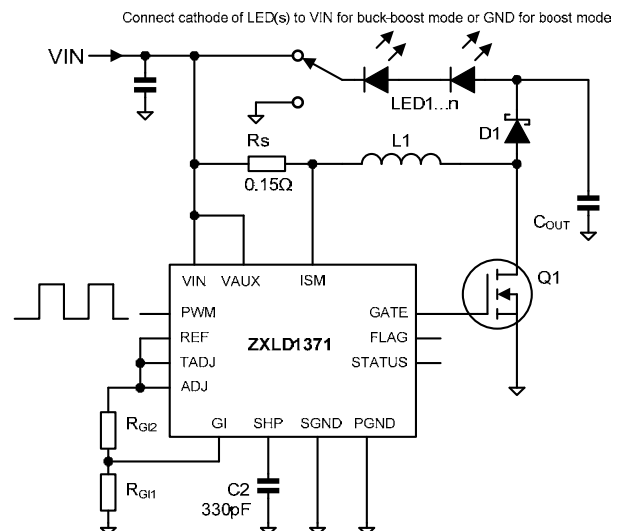

Figure 3. Boost and Buck-boost configuration
b) Boost and Buck-Boost modes – the most simple boost/buck-boost circuit is shown in Figure 3
The average current in the LED, I_{LED} , is always less than I_{RS} . The feedback control loop adjusts the switch duty cycle, D, to achieve a set point at the sense resistor. This controls I_{RS} . During the interval t_{OFF} , the coil current flows through D1 and the LED load. During t_{ON} , the coil current flows through Q1, not the LEDs. Therefore the set point is modified by D using a gating function to control I_{LED} indirectly. In order to compensate internally for the effect of the gating function, a control factor, GI_ADJ is used. GI_ADJ is set by a pair of external resistors, R_{GI1} and R_{GI2} . (**Figure 3.**) This allows the sense voltage to be adjusted to an optimum level for power efficiency without significant error in the LED controlled current.